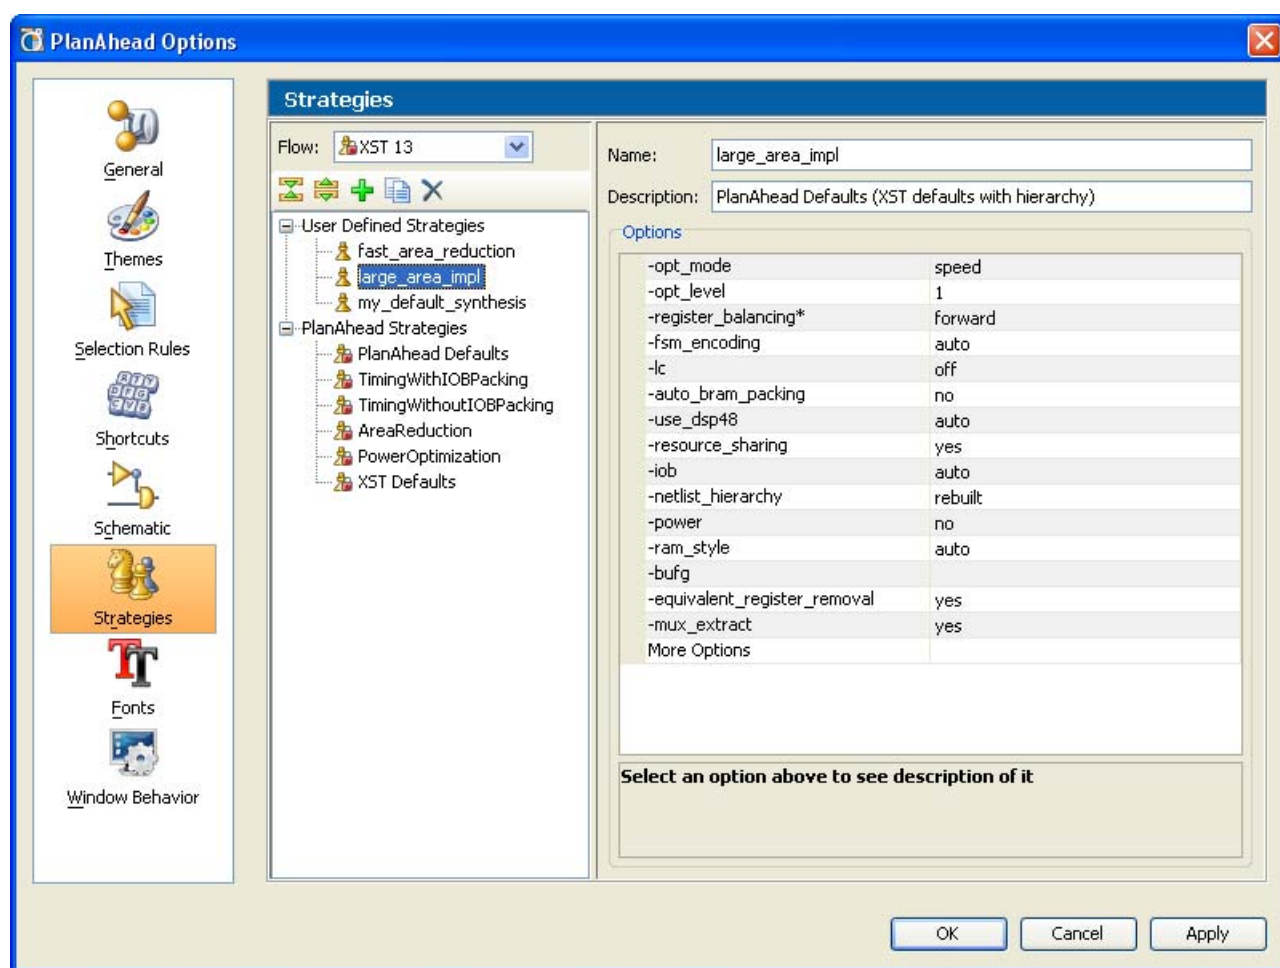

Figure 4-73: Strategies Options
2. Select **Strategies** in the left-side panel. The Strategies dialog box, shown in Figure 4-73, page 167, contains a list of pre-defined strategies for each ISE and Xilinx Synthesis Technology (XST) version.